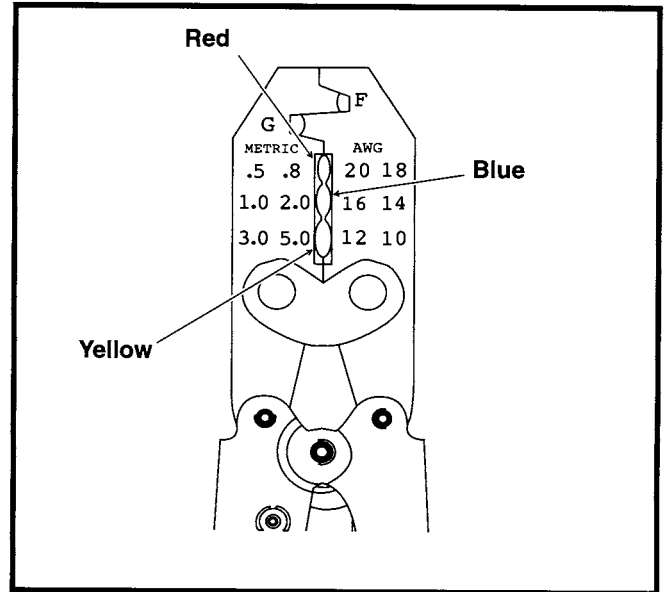

Figure 162. Packard Crimp Tool (HD-38125-8)
- Crimp the wires within the connector using the Packard Crimp Tool (HD-38125-8). Be sure to match the color or gauge wire marked on the butt splice connector with the corresponding crimp cavity on the crimp tool. See Figure 162.